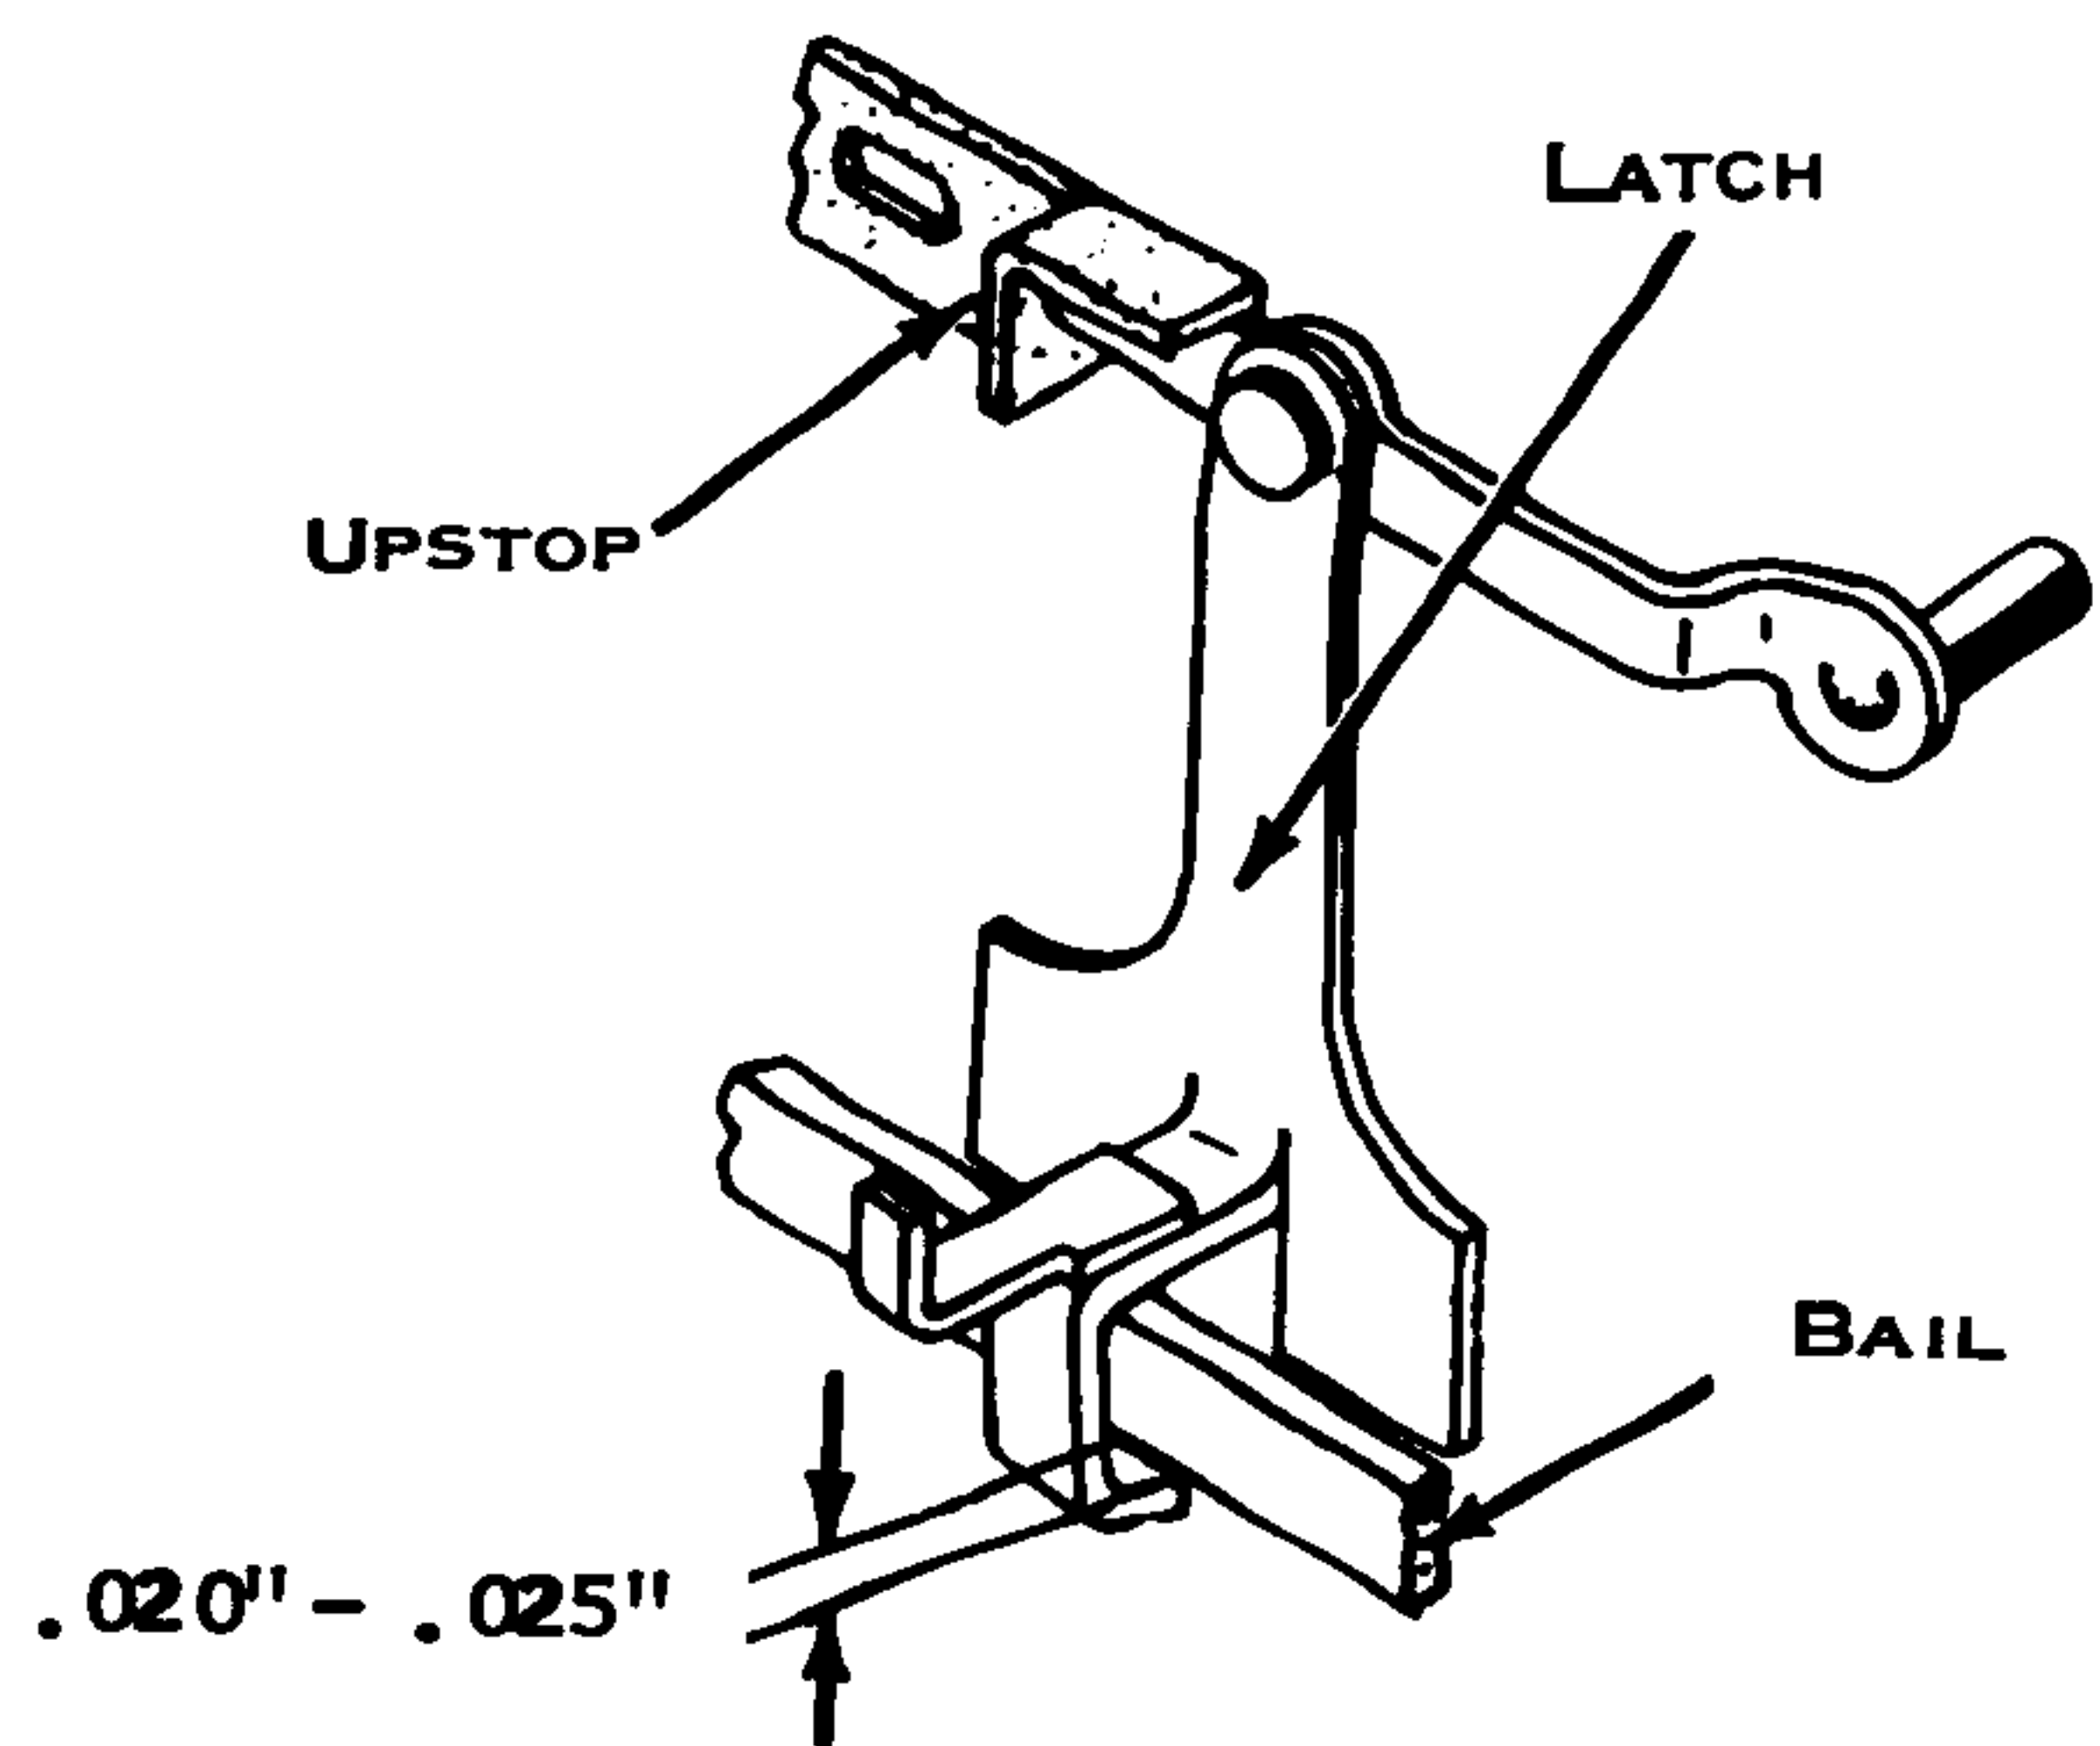

Figure 52. Check Latch Upstop
- a. Upstop (Fig. 52) - With the selector cams at the low point, form the upstop so that the latch clears the bail by  $.020''$  to  $.025''$ .